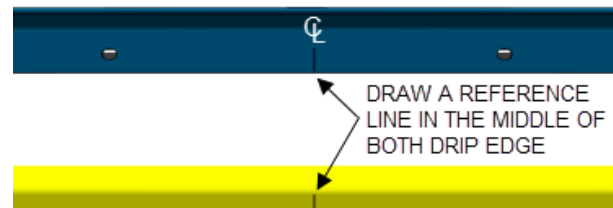

FIGURE 25
6. Draw a line to mark the center of both drip edge (FIGURE 25).